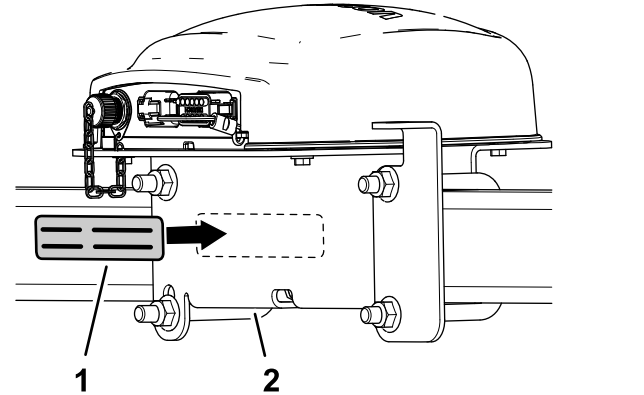

Figure 152
7. Apply the serial label to the receiver mount (Figure 152).